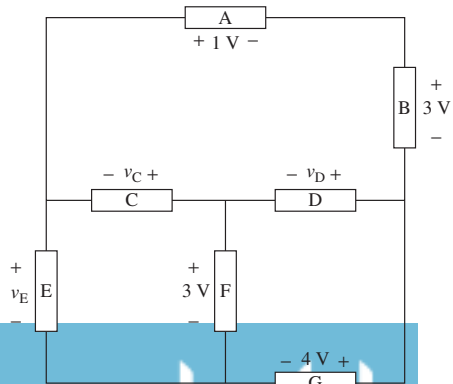

FIGURE P2.33 Circuit for Problem 2.33.
2.33 (A) Find v_C , v_D , and v_E in Figure P2.33: